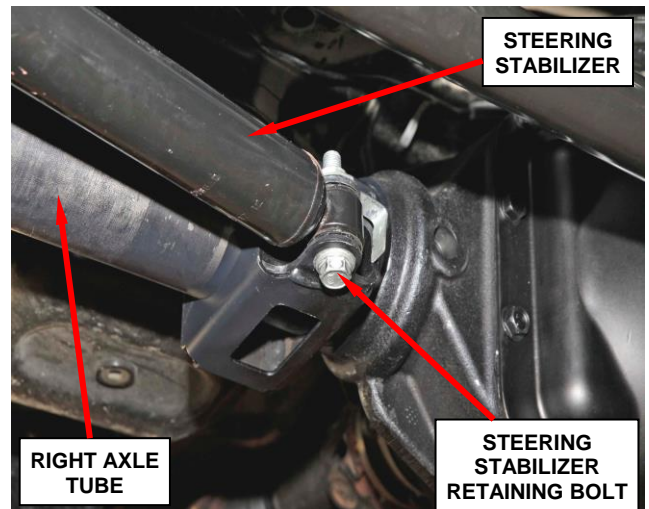

Figure 7 – Steering Stabilizer Retaining Bolt
3. Remove and save the steering stabilizer retaining bolt at the axle bracket side of the stabilizer (Figure 7).